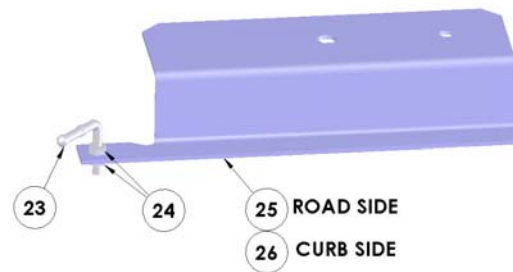

Figure 13
28. Install ride height rod pin (Item 23) and nuts (Item 24) into new ride height rod mounting brackets (Item 25 or 26). Torque to 35-40 in-lbs. (Figure 13)